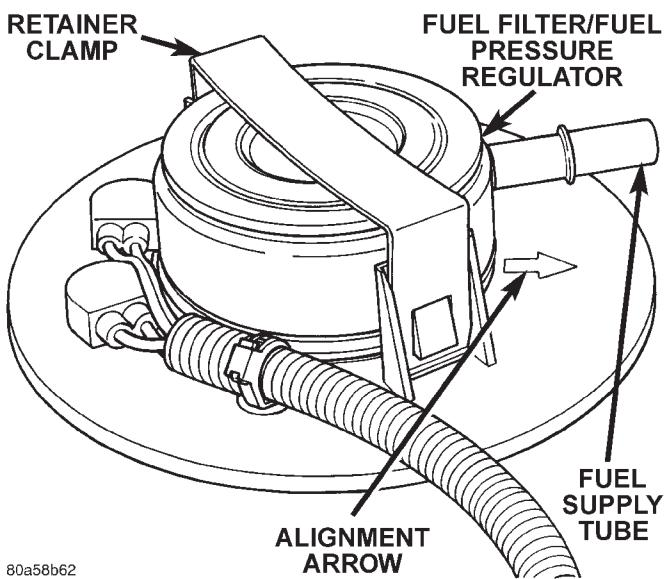
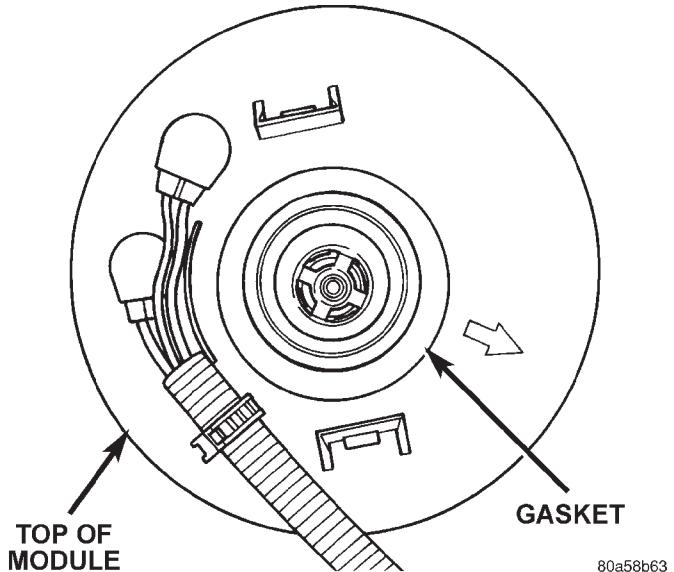

Fig. 22 Fuel Filter/Fuel Pressure Regulator
Fig. 23 Fuel Filter/Fuel Pressure Regulator Gasket
(1) Remove fuel tank. Refer to Fuel Tank Removal/Installation.
(2) Clean area around filter/regulator.
(3) Disconnect fuel line at filter/regulator. Refer to Quick-Connect Fittings in this group for procedures.
(4) Remove retainer clamp from top of filter/regulator (Fig. 22). Clamp snaps to tabs on pump module. Discard old clamp.
(5) Pry filter/regulator from top of pump module with 2 screwdrivers. Unit is snapped into module.
(6) Discard gasket below filter/regulator (Fig. 23).
- The molded arrow (Fig. 22) on top of fuel pump module should be pointed towards front of vehicle (12 o'clock position).
- (1) Using a new gasket, position fuel pump module into opening in fuel tank.
- (2) Position locknut over top of fuel pump module.
- (3) Rotate module until arrow (Fig. 22) is pointed toward front of vehicle (12 o'clock position). This step must be done to prevent float/float rod assembly from contacting sides of fuel tank.
- (4) Install Special Tool 6856 to locknut.
- (5) Tighten locknut to 62 N·m (45 ft. lbs.) torque.
- (6) Rotate fuel filter/fuel pressure regulator until its fitting is pointed to 10 o'clock position.
- (7) Install fuel tank. Refer to Fuel Tank Installation in this section.